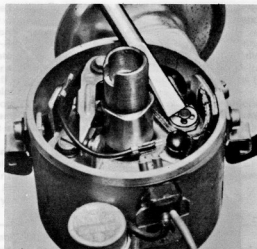

Fig. 4.10. Remove the vacuum advance rod retaining clip (Sec. 7)
- to the spigot on the contact breaker mechanism base plate should now be prised off the spigot (Fig. 4.10). Then undo and remove the two screws securing the vacuum diaphragm unit to the distributor casing and remove the diaphragm unit from the distributor assembly.